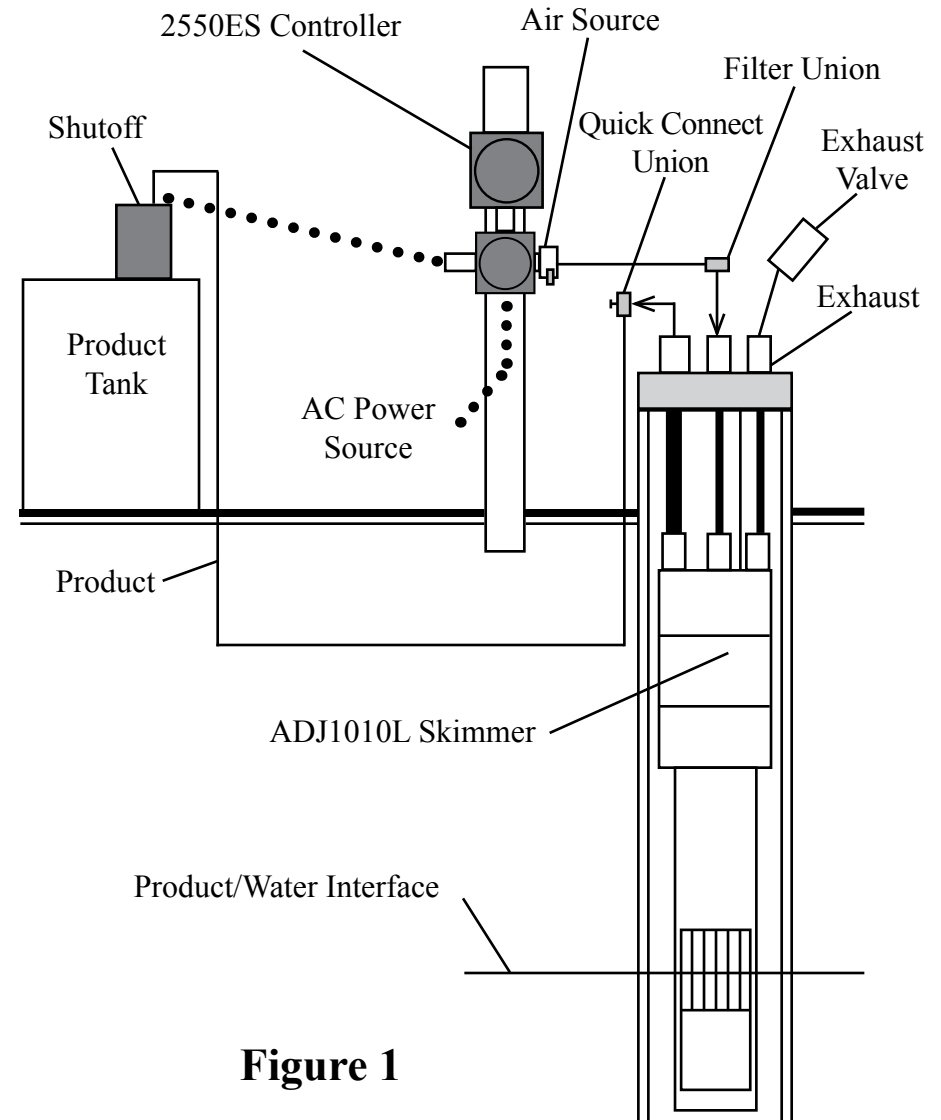
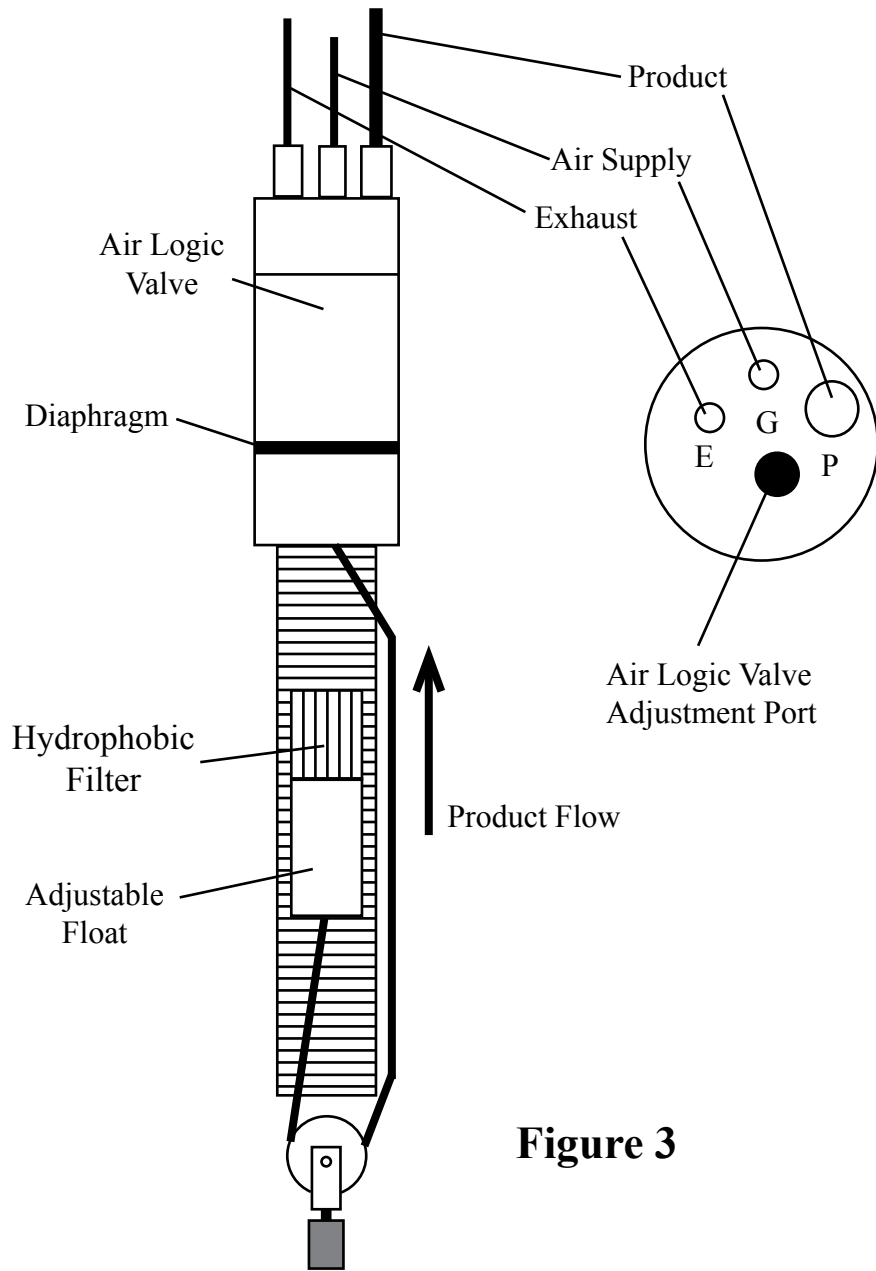

Figure 1
Figure 3
The system (Figures 1 and 2) relates to a floating LNAPL recovery system for wells four inches in diameter and larger. This system includes: an intrinsically safe ADJ1010L pneumatic Smart Skimmer, with an adjustable float (Figure 3), which removes LNAPL up to 200 feet deep; and a two function electronic Class I Controller Model 2550ES for hazardous locations which operates the skimmer intermittently, and has a high level tank shutoff.
STEP 7. Position the skimmer and well cap on the ground near the well. **NOTE:** If the skimmer is over 60 feet deep, use a vented design skimmer. Cut a length of 3/8" OD air supply tubing to cover the distance from the top of the well down to water/product interface, plus 5 feet. Slide enough tubing through the well cap and attach the end of the tubing to the top of the skimmer tube fitting labeled "G" (Figure 3). If the product thickness is greater than 1 foot, position the center of the skimmer screen 1 foot below top of product. If the product thickness is less than 1 foot, position the center of the skimmer screen at the water/product interface.
STEP 8. Cut a length of 1/2" OD product tubing same length as the air supply line. Install 1/2" OD product tubing through the well cap tube fitting labeled "P" (Figure 3). Slide enough tubing through the well cap and attach the end of the tubing to the top of the skimmer tube fitting labeled "P". **CAUTION:** Do not kink the tubing.